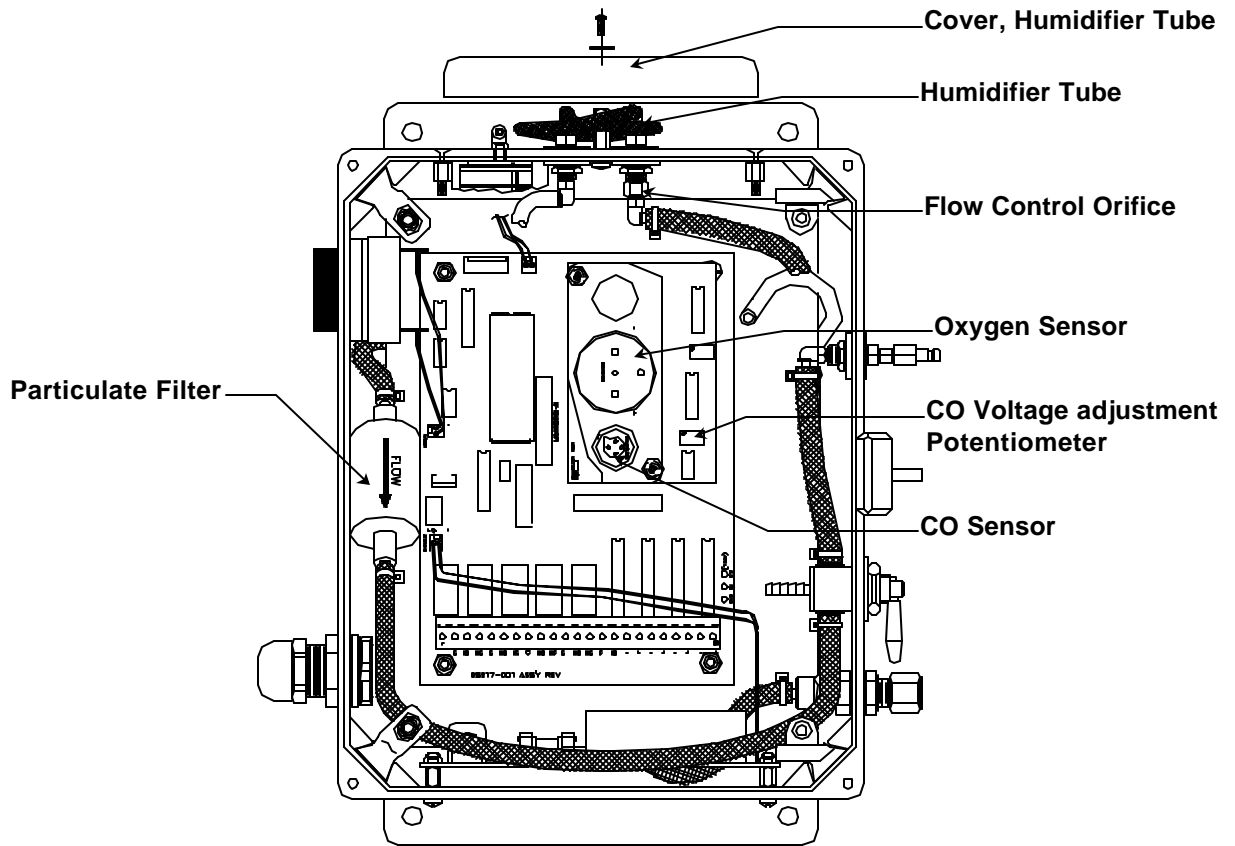

Figure 10: Location of Parts for Replacement
- Adjust to: .65V if it is not between .38 – .68V. Adjust this voltage during the last 30 seconds of the calibration interval, using the bottom most potentiometer on the sensor circuit board. See **Figure 10**.
- Remove the sheet metal cover from the top of the enclosure, exposing the humidifier tube. See **Figure 10**.
A 0.006-inch diameter orifice is used to set the flow rate and to drop the air pressure. It is located where the air enters the humidifier tube, see **Figure 10**. In well-maintained medical air systems, this orifice should not clog. However, if difficulty is experienced in maintaining flow rate with assured inlet pressure, remove air pressure from the equipment and examine this orifice; replace it if necessary.
A filter is installed inside the enclosure, as shown in **Figure 10**.